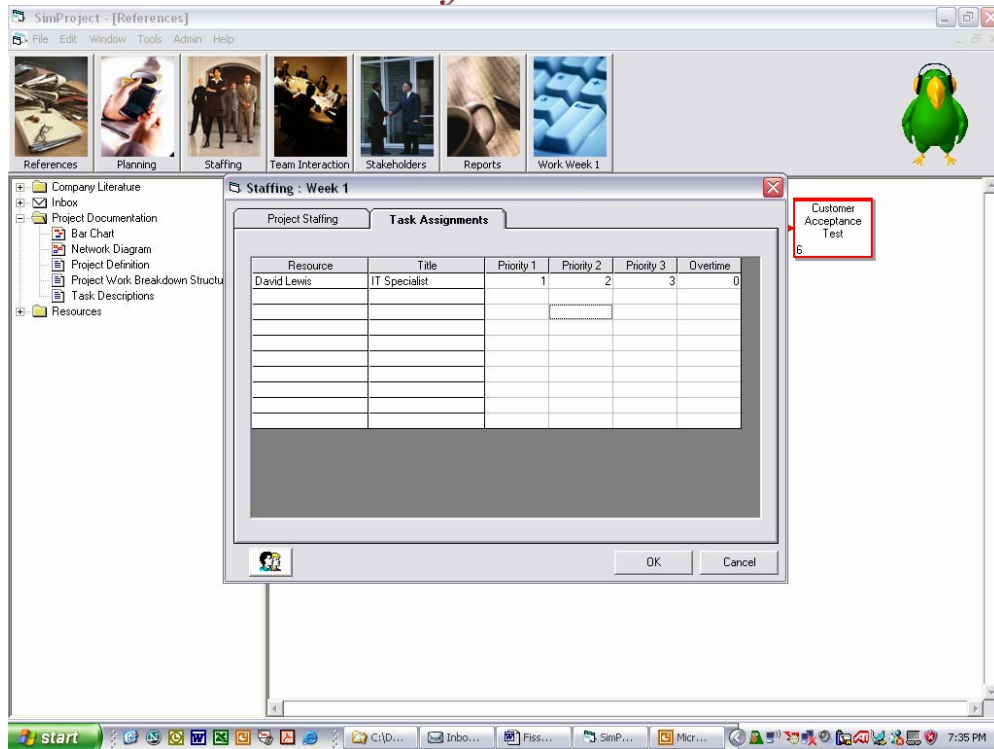

Figure 8 - Task Assignments and Overtime Decisions by Staff
- Task Assignments – assign individuals to work on specific tasks and request overtime (Figure 8). Within the assignment window there is a useful quick look button to your resource plan to facilitate your planning.